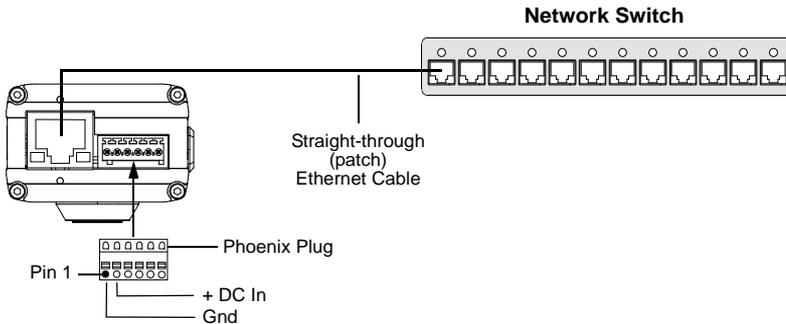

Fig. 7: Camera Power Via a Terminal Connector
6. Insert the end of the ground wire into pin 1 (see Figure 7) of the Phoenix plug as far as it will go. The plug has spring-cage connections and will grip the wire.
9. Connect a straight-through (patch) Ethernet cable to the RJ-45 connector on the camera and to your network switch as shown in Figure 7.